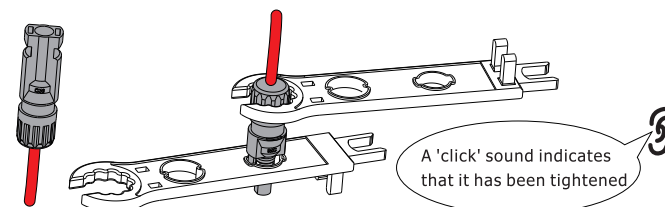

Figure 4.1-3 Connector with cap nut screwed on
**Setp3.**Insert the contact pin to the top part of the connector and completely tighten the cap nut to the top part of the connector,as shown in Figure 4.1-3.